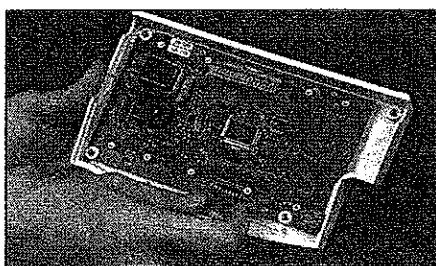

Figure 27
4. Install the display PCB/LCD assembly to the bezel top assuring alignment of temperature jack, by installing the four (4) 4-40x1/4" Phillips pan-head screws.
5. Reconnect the membrane switch mylar connector to the display PCB (see Figure 27).